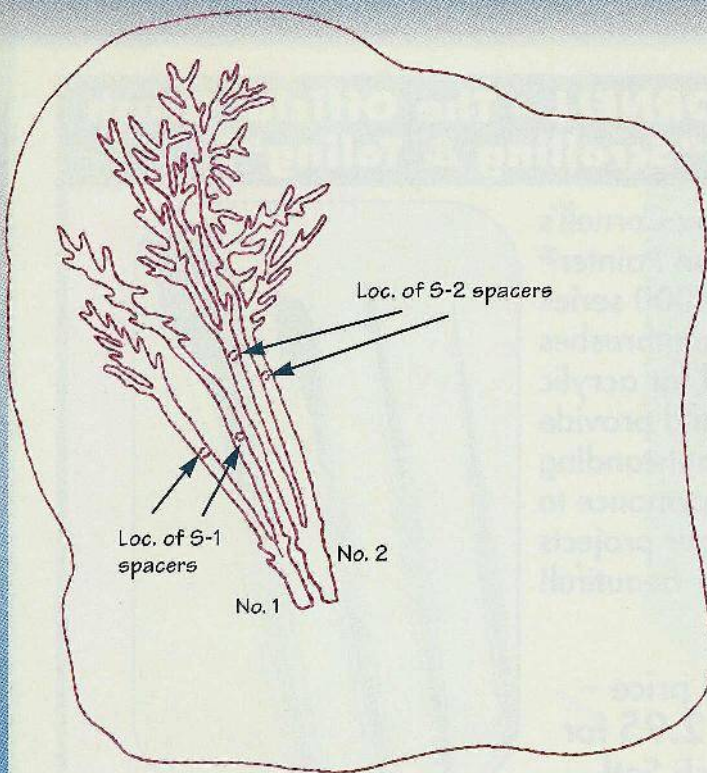

Fig. 1. Glue the spacers (S-1 and S-2) to the backs of weeds No. 1 and 2, then glue them to the backer board.
Fig. 1. Glue the side legs (B) to the base support (D), making sure they are square and flush on the sides and top. Next, glue the front legs (A) in place, making sure the top edges are flush. Sand the top and bottom flat if there is any mismatch, as these two surfaces must be parallel.
Assembling the Gargoyle Grandmother Clock may appear complicated, but it is really only a matter of repeating a procedure three times and gluing each assembly to the last. Take your time building the clock from the ground up. Refer to **Figs. 1 through 9** while assembling the clock:
Referring to Figs. 1, 2, and 3, glue the pieces and spacers to the backer board as shown.